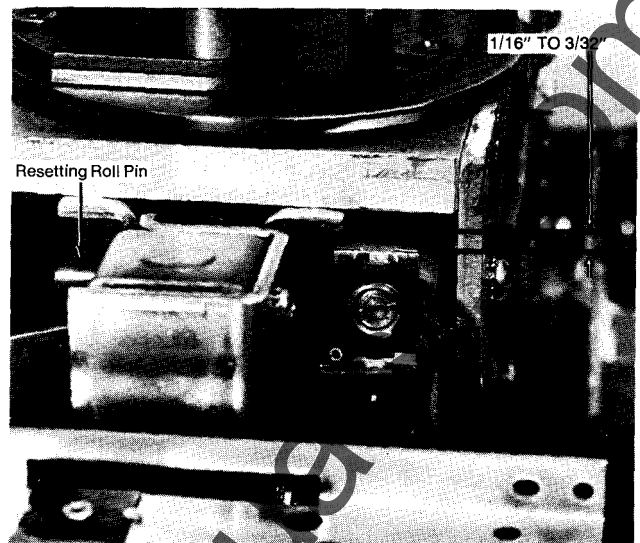
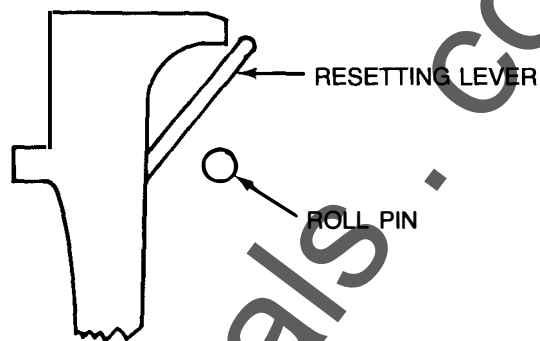

Figure 29. View of Right Hand Shunt Trip Mounting
Figure 32. Roll Pin Position
- c. Position unit to provide $\frac{1}{16}$ -inch to $\frac{3}{32}$ -inch gap, as shown in Figure 29 and tighten screws to 25-inch pounds torque.
NOTE: It is very important to be sure the resetting roll pin is beneath the resetting surface of the resetting lever. See Figure 29 and Figure 32.
2. Refer to step 3a-3e on pages fourteen and fifteen and Figure 29 to install blown fuse trip device.